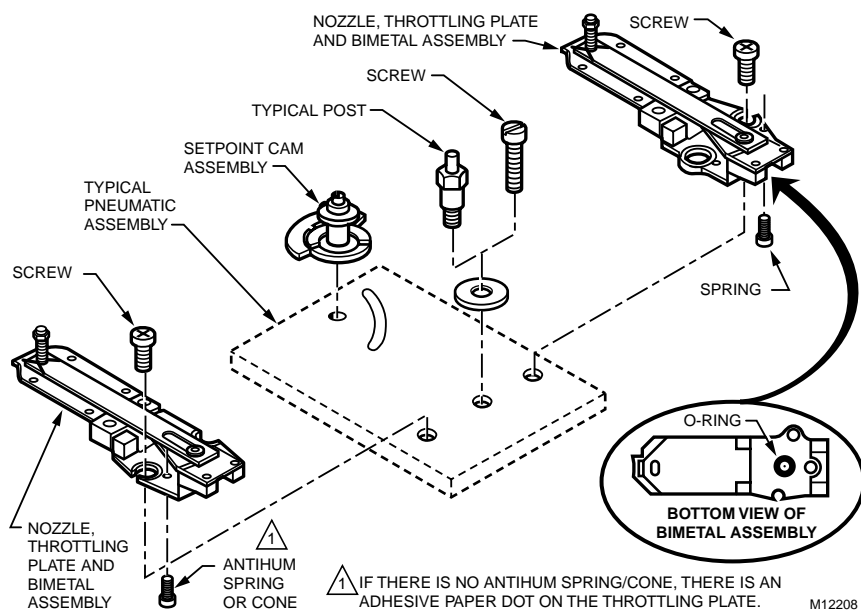

Fig. 18. Nozzle, Throttling Plate, Bimetal Assembly Replacement.
4. Remove the Phillips head screw and the defective assembly (Fig. 18).